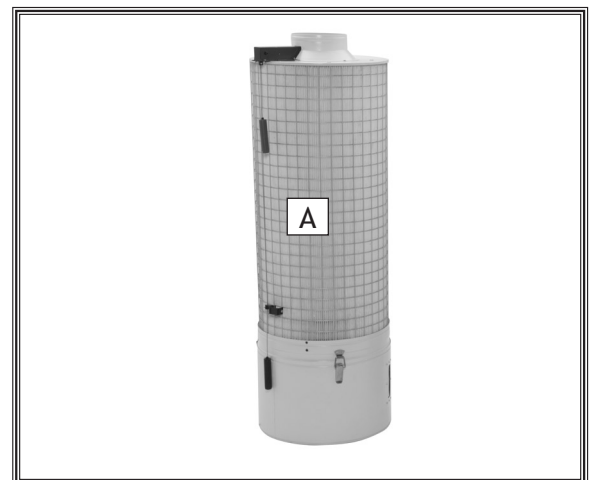

Figure 7. W1809 filter box contents.
- Filter Box Contents (Figure 7):**